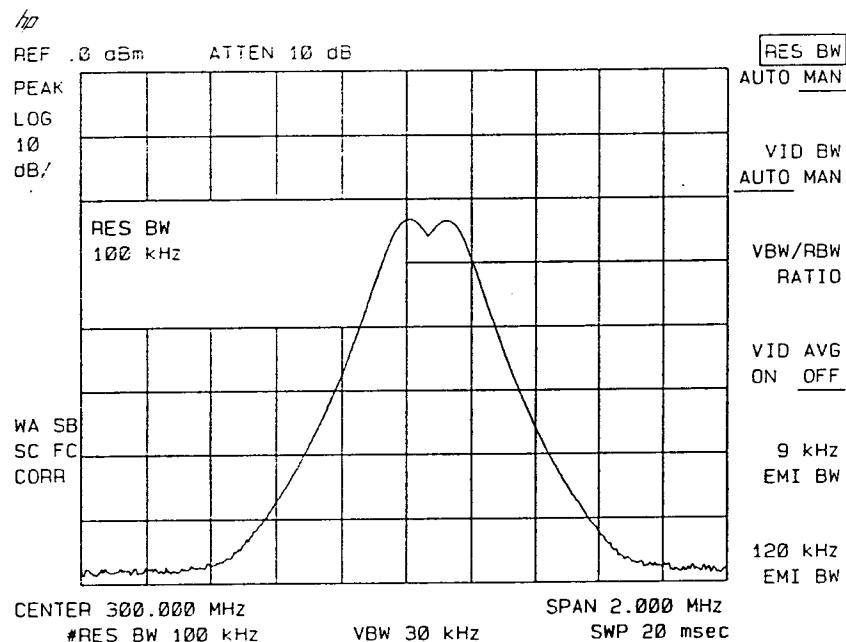

Figure 2-2. Resolving Signals of Equal Amplitude
Generally, to resolve two signals of equal amplitude, the resolution bandwidth must be less than or equal to the frequency separation of the two signals. A dip of approximately 3 dB is seen between the peaks of the two equal signals, and it is clear that more than one signal is present. See Figure 2-2.
4. Since the resolution bandwidth must be less than or equal to the frequency separation of the two signals, a resolution bandwidth of 100 kHz must be used. Change the resolution bandwidth to 100 kHz by pressing **BW** 100 **kHz**. Two signals are now visible as in Figure 2-2. Use the knob or step keys to further reduce the resolution bandwidth and better resolve the signals.